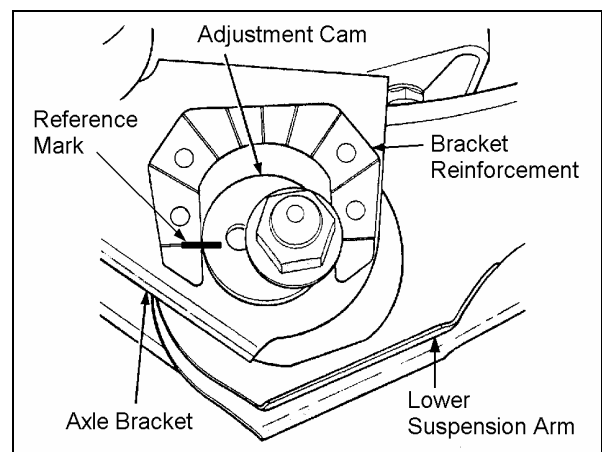

Figure 3
2. ☐ Paint or scribe alignment marks on the adjustment cams and axle brackets for installation reference. See Figure 3.